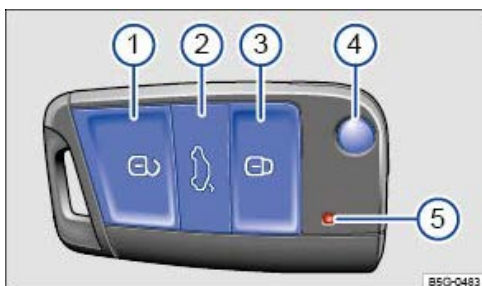

Fig. 66 Vehicle key.
Key to → Fig. 66:
Press lock button → Fig. 66 ④ . The key bit is released and folds out.
If the vehicle cannot be unlocked or locked using the vehicle key → Fig. 66 , the vehicle key will have to be re-synchronised or the button cell (battery) in the vehicle key replaced → Changing the button cell .
If the buttons on the vehicle key → Fig. 66 or one of the central locking buttons → Central locking and closing system are pressed repeatedly within a short period of time, the central locking system will switch off briefly to prevent overloading. The vehicle will then be unlocked. Lock the vehicle if necessary.
If the buttons on the vehicle key → Fig. 66 or one of the central locking buttons → Fig. 69 are pressed repeatedly within a short period of time, the central locking system will switch off briefly to prevent overloading. The vehicle is then unlocked for a number of seconds. If no door or the boot lid are opened during this time the vehicle will lock again automatically.